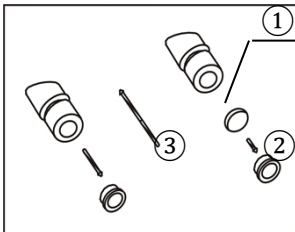

Fig. 5
- 1) Turn and remove the mounting ring (2) from the eyepiece.(Fig.5)
- 2) Clean the eyepiece micrometer (1), and mount it to the mounting ring with the inscription side downward.
- 3) Gently screw the mounting ring to hold the eyepiece micrometer into the eyepiece till tightening (2) securely.